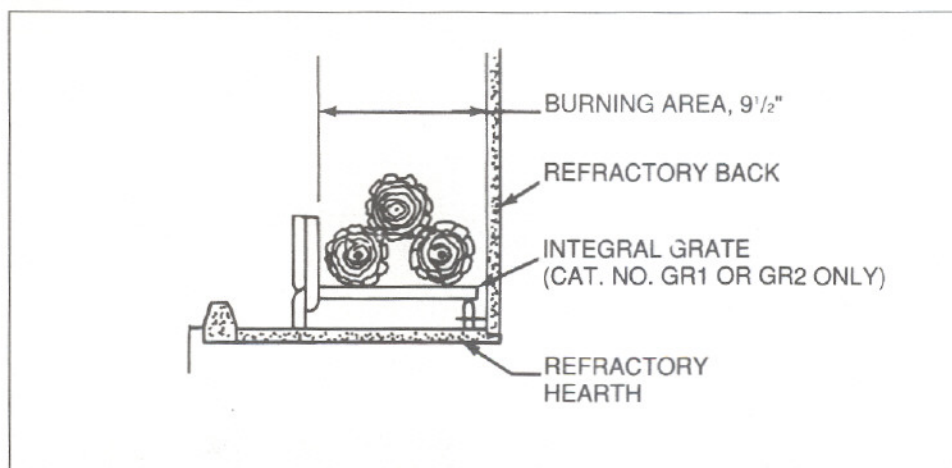

Figure 20
- E. **GRATE.** The factory installed Integral Grate must be used to hold the logs from falling out of an open fireplace and to allow air to pass between the burning logs. It is important to keep the fire off the hearth and to allow the ashes to collect beneath the fire, thereby forming a layer of additional heat protection. See Figure 20. Use only Catalog Number GR1 Integral Grate for the HB36AM and RB36AM, or GR2 for the HB42AM and RB42AM for replacement.
- H. **SETTING THE FIRE.** Check the flue damper to be sure it is fully open. Place a crumpled or twisted paper under the Grate. Loosely arrange kindling or small pieces of wood to form a layer above the paper. Place three logs in a rough pyramid as shown in Figure 20, being sure to allow free air space between the logs. Small sticks of wood may be used to separate the logs. **NOTE: When heated the first time, the temperature of the fireplace must be raised gradually, to prevent moisture within the refractory from causing cracks, and to allow the binders in the insulation to dissipate.**